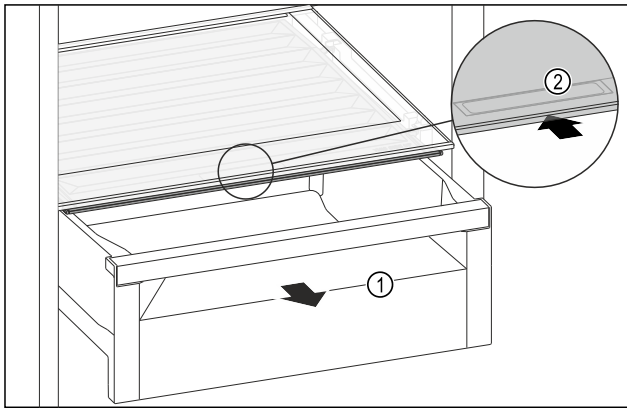

Fig. 138
- Pull out the drawer Fig. 138 (1).
- Grasp the recessed grip Fig. 138 (2) on the compartment lid and push the compartment lid backwards at the same time.